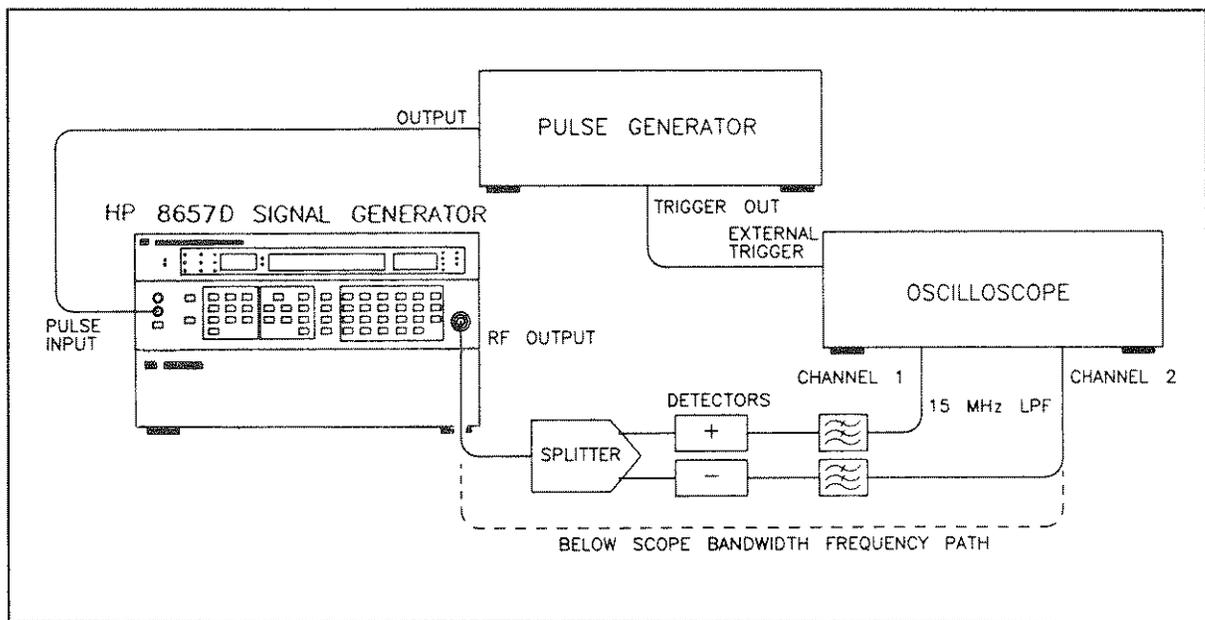
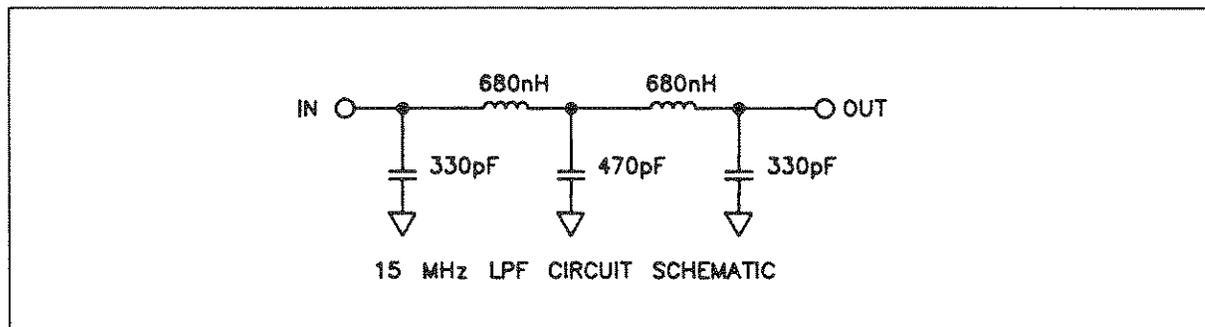

Figure 4-12. Rise/Fall Time Test Setup with Peak Detectors
Figure 4-13. Schematic for 15 MHz Low Pass Filters
15 MHz Low Pass Filter (2 Required)	(See Figure 4-13)
35. Connect the equipment as shown in Figure 4-12. Low Pass Filters can be constructed using the schematic in Figure 4-13.